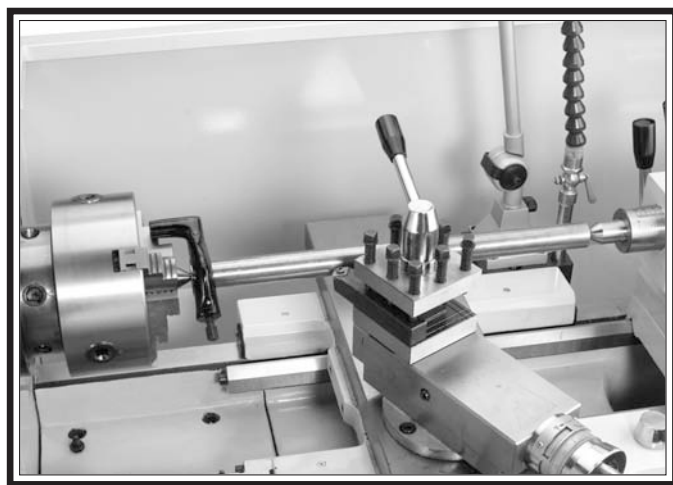

Figure 31. Example photo of stock mounted between the centers.
5. Attach a lathe dog to the test stock from **Step 2**, then mount it between the centers (see **Figure 31** for an example photo).